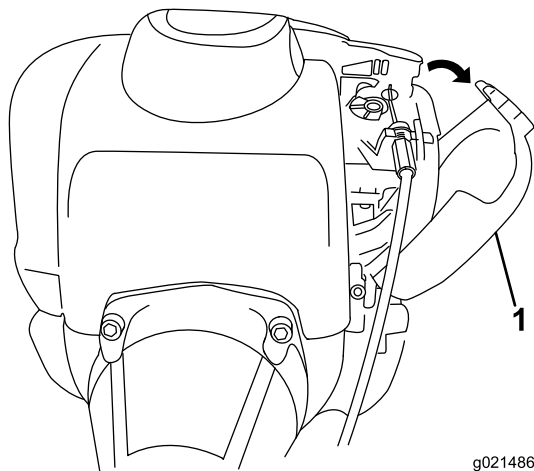

Figure 25
3. Unclip and remove the air cleaner cover (Figure 25).